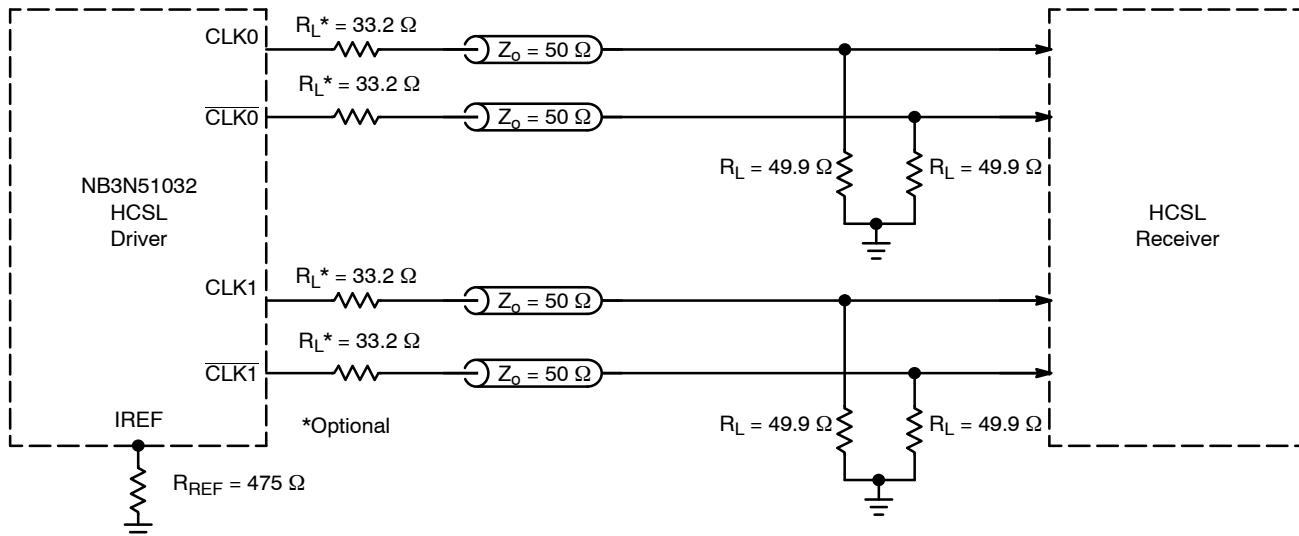

Figure 9. Typical Termination for Output Driver and Device Evaluation
4. VDDXD and VDDODA power pins must be shorted to power supply voltage V_{DD} and GNDXD and GNDODA ground pins must be shorted to power supply ground GND. Measurement taken with outputs terminated with $R_S = 33.2$ Ω, $R_L = 49.9$ Ω, with test load capacitance of 2 pF and current biasing resistor set at 475 Ω. See Figure 9. Guaranteed by characterization.
9. VDDXD and VDDODA power pins must be shorted to power supply voltage V_{DD} and GNDXD and GNDODA ground pins must be shorted to power supply ground GND. Measurement taken from differential output on single-ended channel terminated with $R_S = 33.2\ \Omega$, $R_L = 49.9\ \Omega$, with test load capacitance of 2 pF and current biasing resistor set at 475 Ω . See Figure 9. Guaranteed by characterization.
The outputs can be terminated to drive HCSL receiver (see Figure 9) or LVDS receiver (see Figure 10). HCSL output interface requires 49.9 Ω termination resistors to GND for generating the output levels. LVDS output